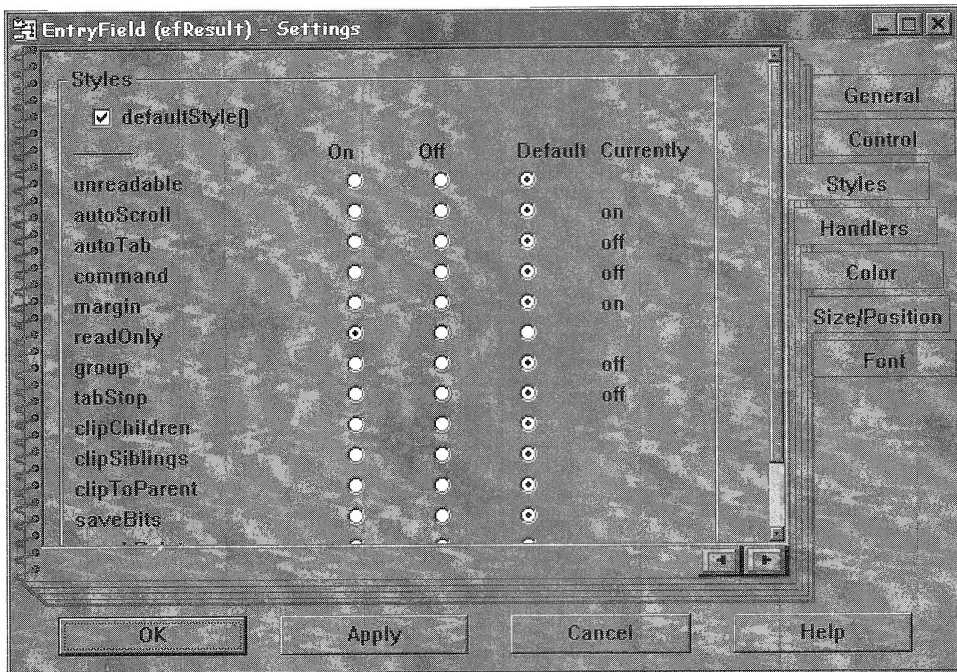

Figure 48: Settings notebook for efResult
- ☐ In the row labeled **readOnly**, select the **On** radio button as shown in Figure 48.